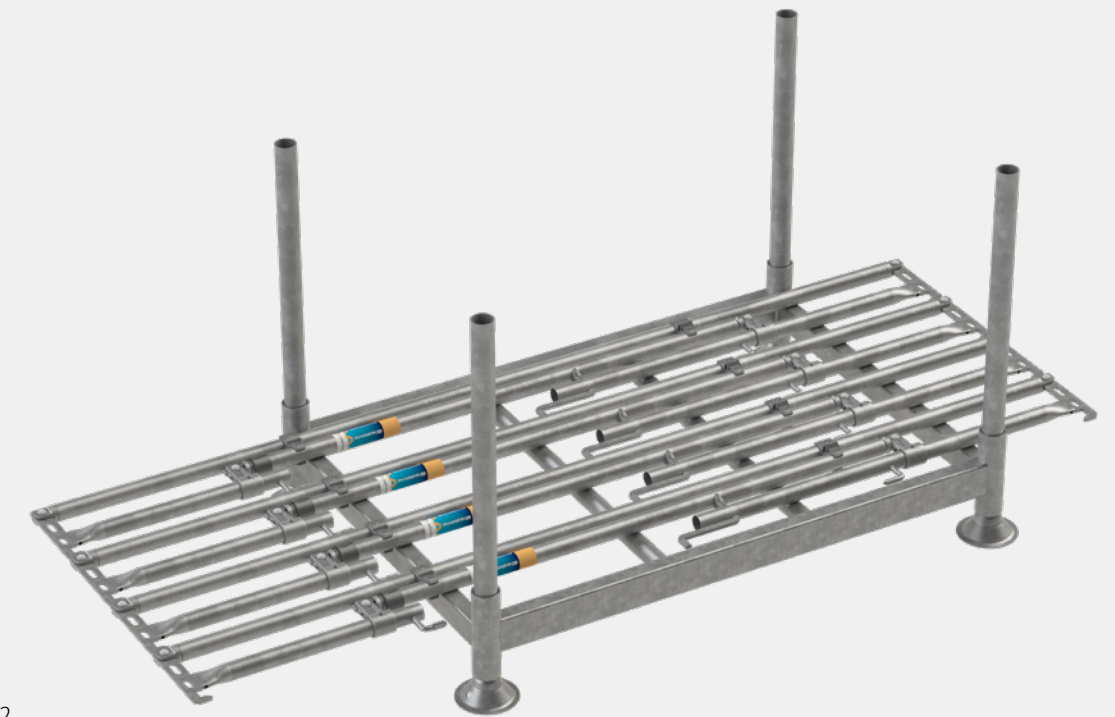

Figure 2.2
2.1.2 On a standard scaffolding rack (E08SR0012) it is possible to place four folded PAGs next to each other (see figure 2.2).